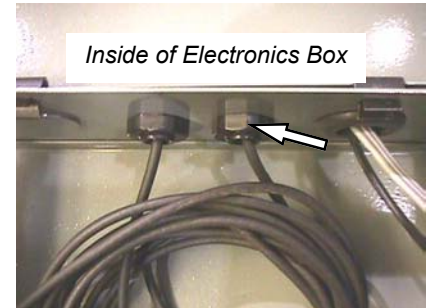

Fig 3.2 Threaded rings for sensor cable (dimples to wall).
3. **Carefully** push the cable connector **thin side first**, back through the removed threaded ring, dimple side first. Slide the threaded ring up to the box and tighten on the threads protruding through. (Fig 3.2)